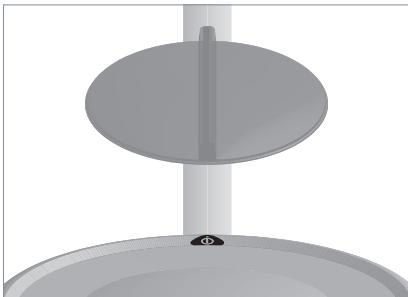

Fig. 4: Storing the magnifier cover.
- ▶ Clamp the magnifier cover to the light support, see Fig. 4.